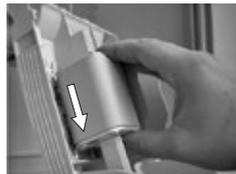

Figure 18
- Move a fuse link along the cover until the locking for fuse links is fasten (Figure 18);